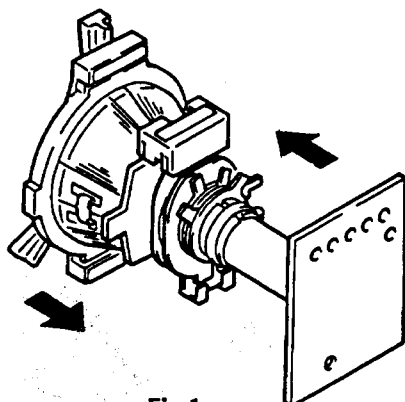

Fig.1
5. Move the deflection yoke forward, and adjust so that the entire screen becomes green. (Fig.1)